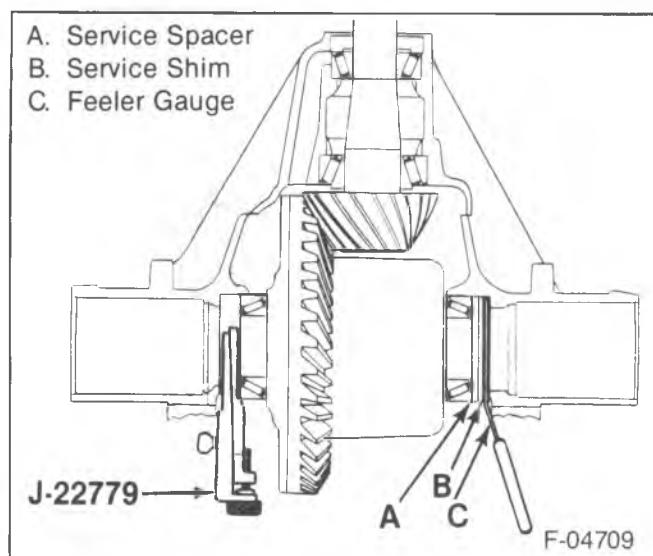

Figure 21—Measuring Side Bearing Shim Requirements
5. Move the tool back and forth in the bore while turning the adjusting nut to the right until a noticeable drag is produced (figure 21).